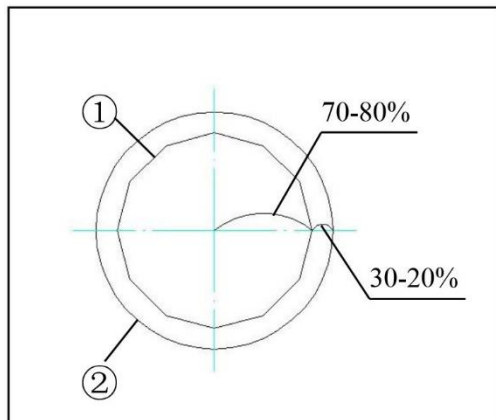

Figure 12
3.1.10. Using the aperture diaphragm (Figure 12)
- To recognize the aperture diaphragm, you could remove the eyepiece if necessary (You also could insert in the center telescope), then looked into the viewing tube, you might see a field of view like the figure shown. The proportion could be changed by dialing the aperture adjustment lever according your need. (① is the image of the aperture diaphragm, ② is the edge of the objective).